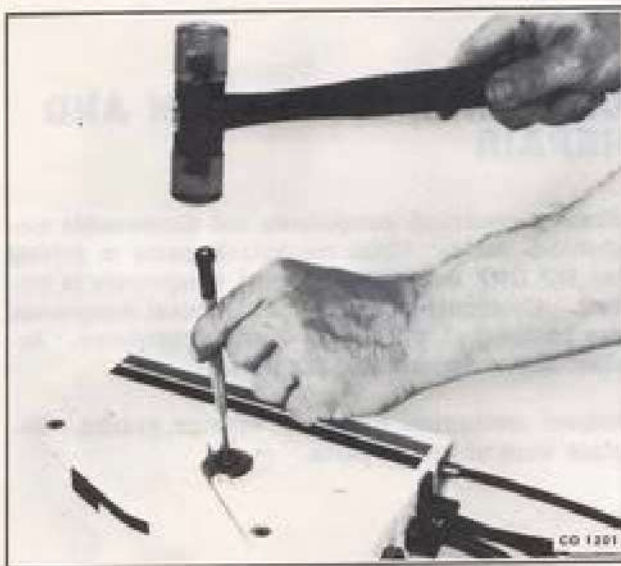

Figure 8-15. Loosening Control Handle
c. Support control on blocks to allow the handle to be driven off the control. Place small punch in head of Allen head screw and tap with plastic hammer to disengage the handle splines from the hub splines. Remove the Allen head screw and the handle. See Figure 8-15.